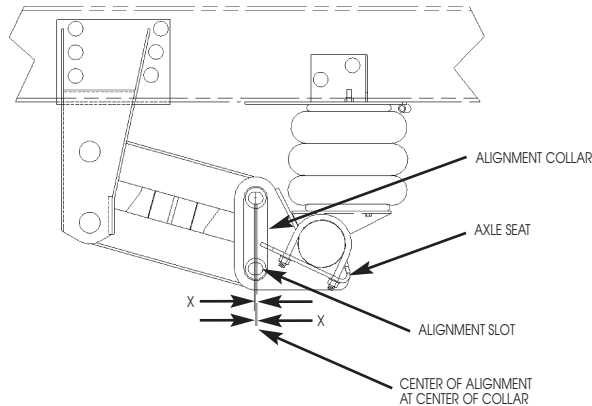

Figure 23
- Position one beam of the auxiliary suspension so that the alignment collar is in the center of the alignment slot and tighten the axle seat bolts only to snug. (See Figure 23)